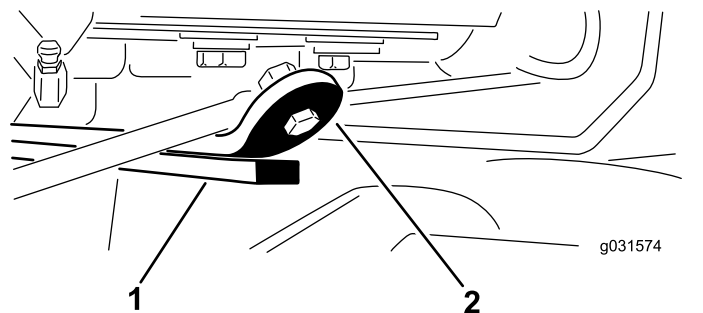

Figure 14
3. Start the engine, raise the cutting units, and ensure that the clearance between the wear strap on the top of the rear-cutting-unit wear bar and the bumper strap is 0.51 to 2.54 mm (0.02 to 0.10 inches) as shown in Figure 14.